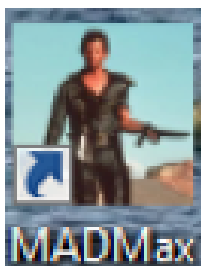
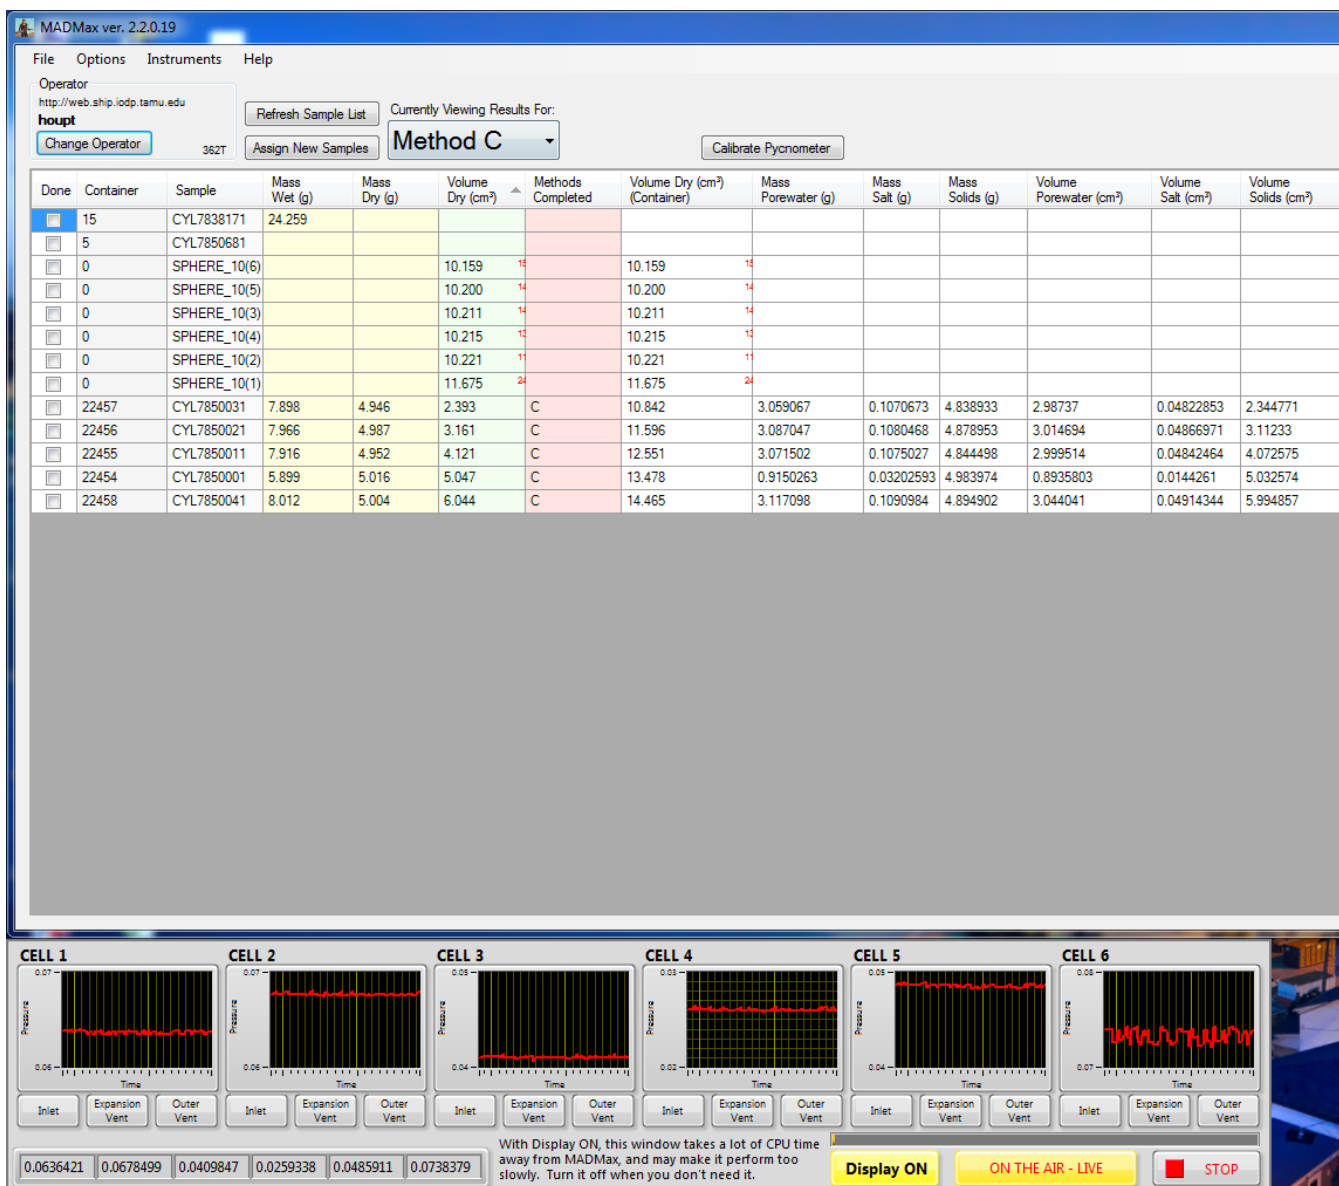

Figure 1. MADMax Icon.
Figure 2. MADMax main screen. Note the pycnometer display screens below the main application window.
1. Double-click the **MADMax** icon on the desktop (*Figure 1*) and login using ship credentials. **MADMax** main screen will open (*Figure 2*).
2. The main screen of the application (*Figure 2*) is the central command center for the entire process. Various actions on this screen initiate the balance measurements, the pycnometer measurements, the entry of caliper data, and the calculation of the derived MAD results.